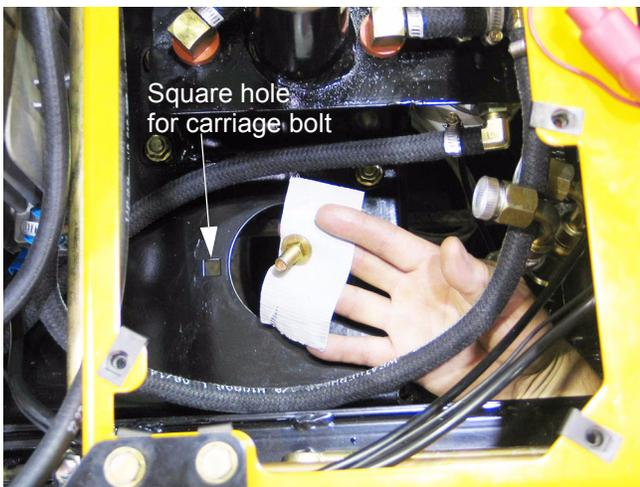

Figure 25.23
25.23. Affix the carriage bolts that hold the pump using duct tape. See Figure 25.23.